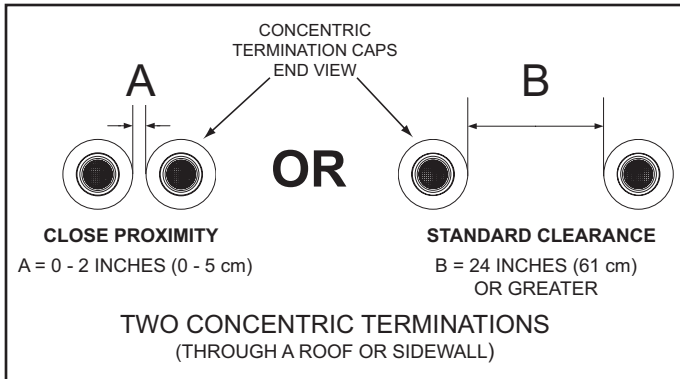
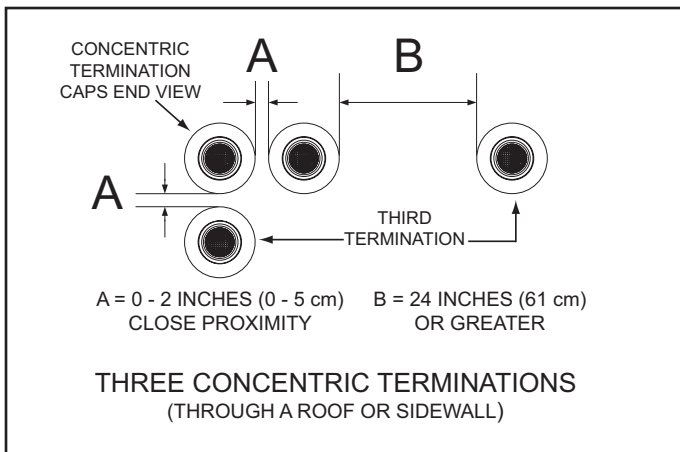
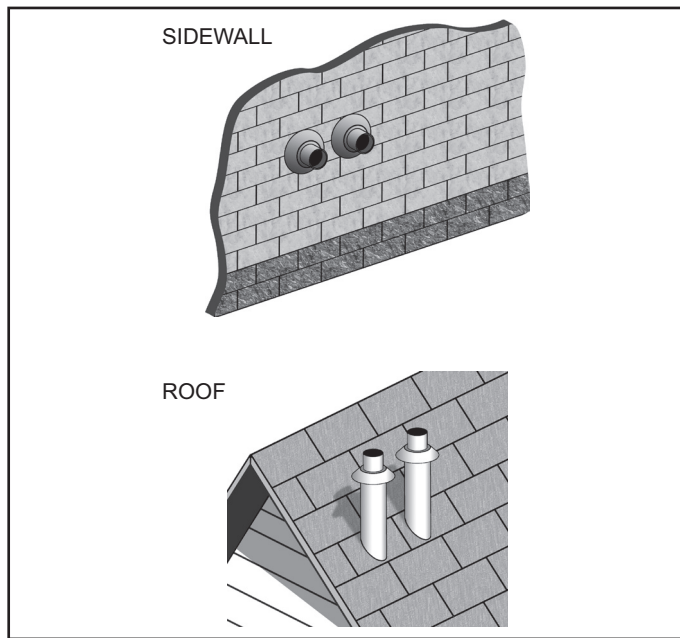

Figure 28
Figure 29
Figure 33. Two Concentric Terminations (Sidewall and Roof)
When installing multiple concentric terminations through a roof or through a sidewall the clearances shown in Figure 28 must be maintained.
1. The clearance between multiple termination caps must be 0 inches (touching) to a maximum of 2 inches (5 cm), dimension A - Figure 28, when installing concentric terminations in close proximity. See Figure 28 through 32.
2. The clearance between multiple termination caps must be increased to a minimum of 24 inches (61 cm), dimension B - Figure 28, when installation in close proximity (above) is not possible. This is the standard clearance.
1. When installing three concentric terminations through a roof or through a sidewall the third termination may be installed in close proximity as indicated by dimension A in Figure 29.
2. If close proximity installation of the third termination is not possible the third termination may be installed as indicated by dimension B in Figure 29.
Two concentric terminations may be installed in close proximity as shown in Figure 33 or with standard clearances when this arrangement is not possible. See Figure 28 on page 31 for detailed information on clearances. See Figure 29 on page 31 when installing three concentric terminations.